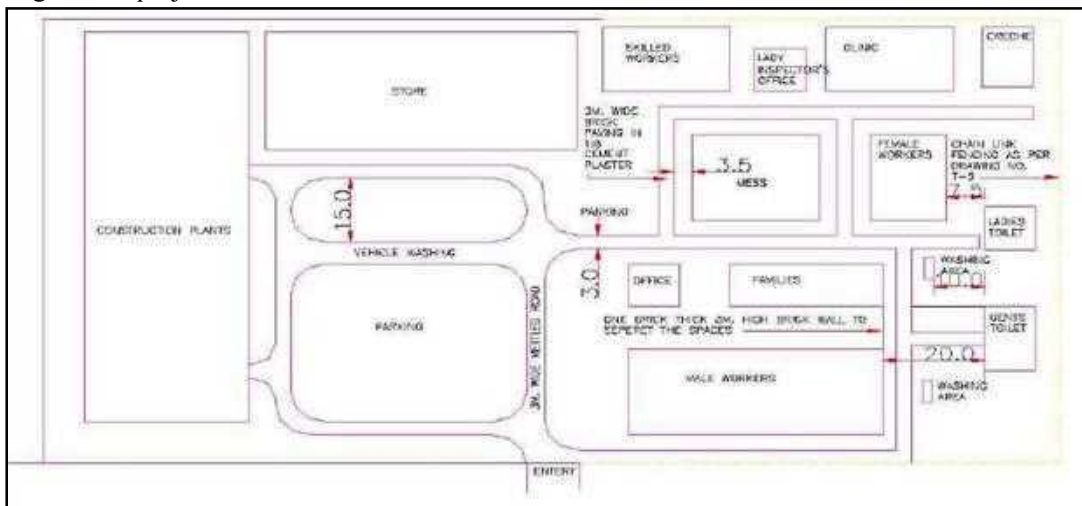

Figure 1-1: Layout Plan for Construction Camp
- d) detailed layout plan for development of the construction and labour camp that shall indicate the various structures to be constructed in the camp including temporary, drainage and other facilities (**Figure 1-1** gives a layout plan for a construction camp); and